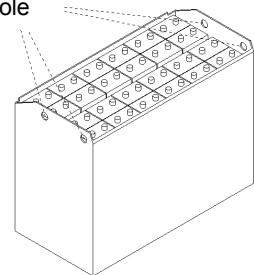

Figure 2-43
(4) Lifting description of the accumulator as shown in Figure 2-43